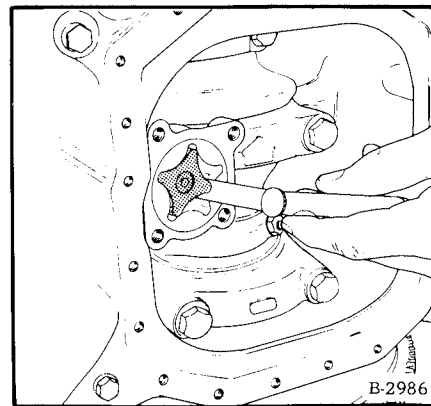

Fig. 8-57 Check Rotor & Vane Clearance
- (3) Use a feeler gauge to measure the tip clearance between the rotor and vane. Make replacement of the rotor assembly if the measured clearance is over the standard limit (Fig. 8-57).